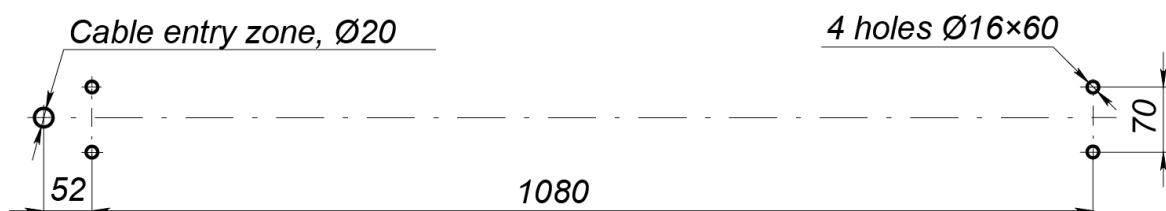

Figure 3. Mounting hole pattern
2. Mark out mounting holes and cable ducts. Through cable ducts lay necessary power cable to the electromagnetic lock (and also if necessary, cable to the door sensor) (Fig. 3).